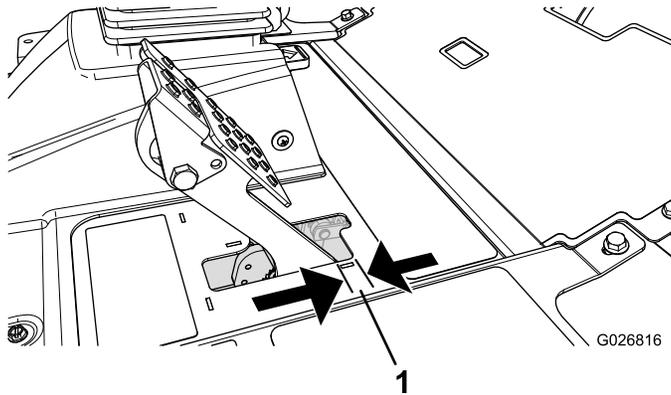

Figure 84
Adjust the brakes when there is more than 2.5 cm (1 inch) of free travel of the brake pedal, or when more holding force is required (Figure 84). Free travel is the distance the brake pedal moves before you feel braking resistance.
2. Tighten the rear nut to move the cable backward until brake pedals have 0.63 to 1.27 cm (1/4 to 1/2 inch) of free travel, before wheel lock up is achieved (Figure 84).